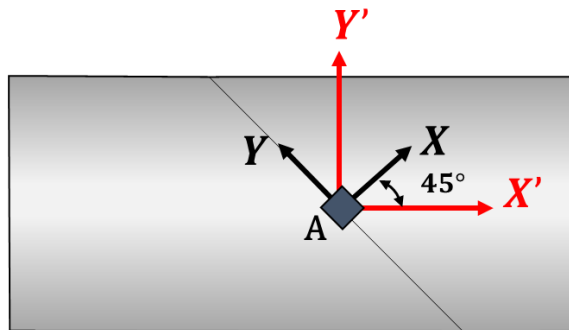
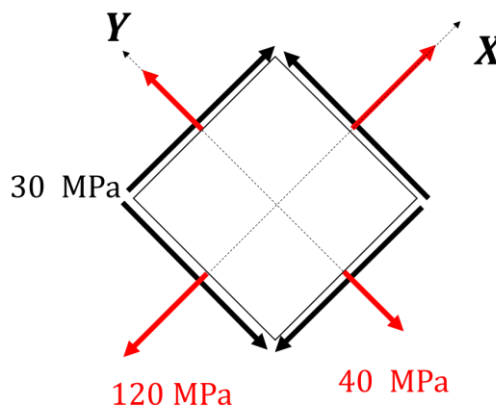

Figure 3A: Structure with element A
Figure 3B: Stress element A
A point A on the structure in Figure 3A is subjected to in-plane stresses as shown in Figure 3B.
- (a) Use the stress element in Figure 3B to draw the **Mohr's circle** on the attached graph paper.
- (c) Determine the normal and shear stresses in the X'-Y' directions, draw a stress element to show the calculated stresses, and mark the state of stress in the X'-Y' directions on the Mohr's circle. Note: The X' axis is oriented at 45° from the X axis as shown in Figure 3A.